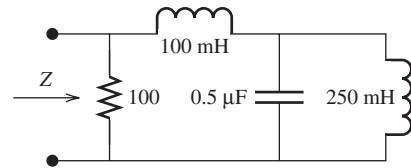

FIGURE P6.23 Circuit for Problem 6.23.
- 6.23** (A) If $\omega = 600$, find Z in Figure P6.23.